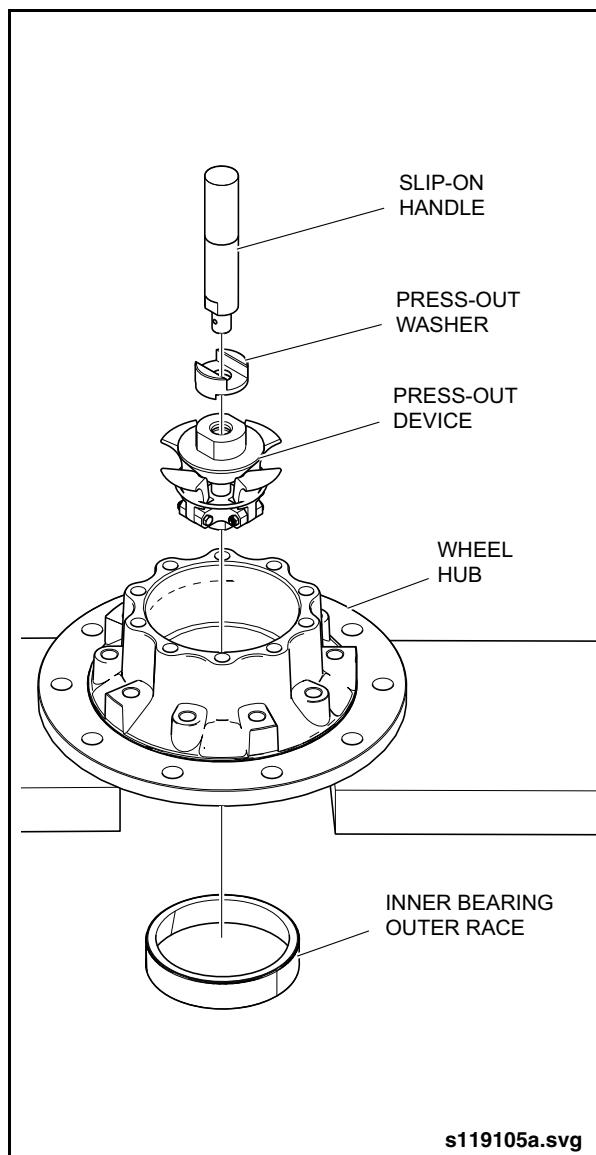

Fig. 2-22: Removing Inner Bearing Outer Race
1. Place the wheel hub on its inner bearing support with wood underneath. See "Fig. 2-22: Removing Inner Bearing Outer Race" on page 25.